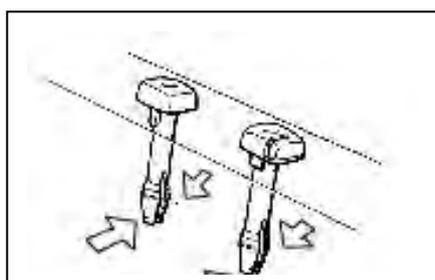

Fig. 19-5
(1) The removal sequence of middle row seat is shown in Fig. 19-5、19-6: